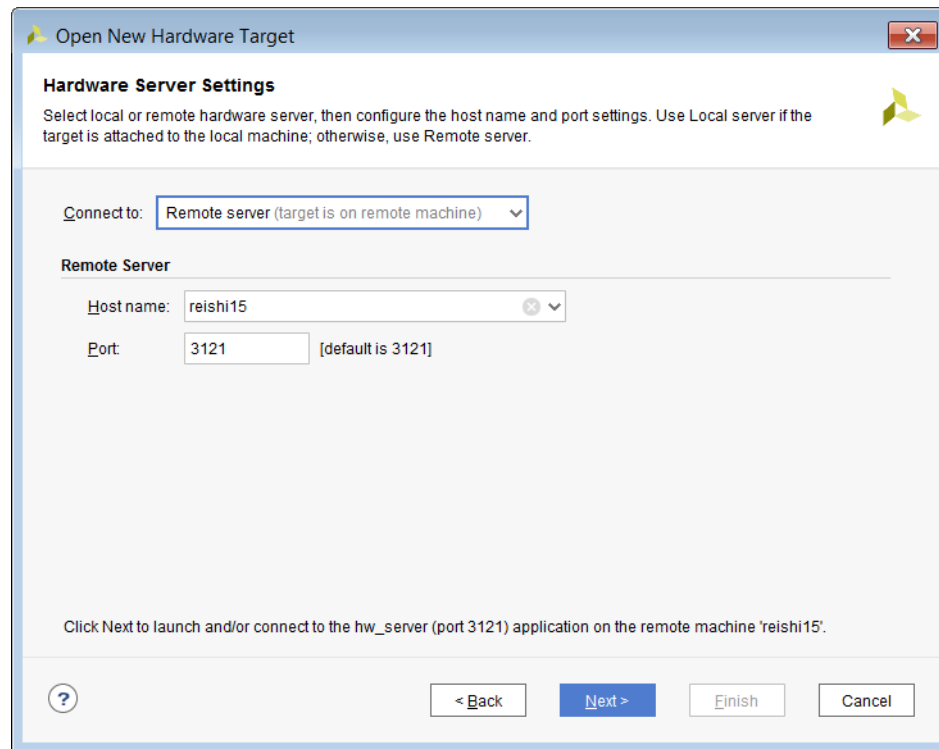

Figure 4-4: Using a Remote Hardware Server
- Remote server: Use this setting if your hardware target is connected to a different machine on which you are running the Vivado Lab Edition or Vivado IDE. Specify the host name or IP address of the remote machine and the port number for the hardware server (hw_server) application that is running on that machine (see Figure 4-4). Refer to Connecting to a Remote hw_server Running on a Lab Machine, page 217 for more details on remote debugging.